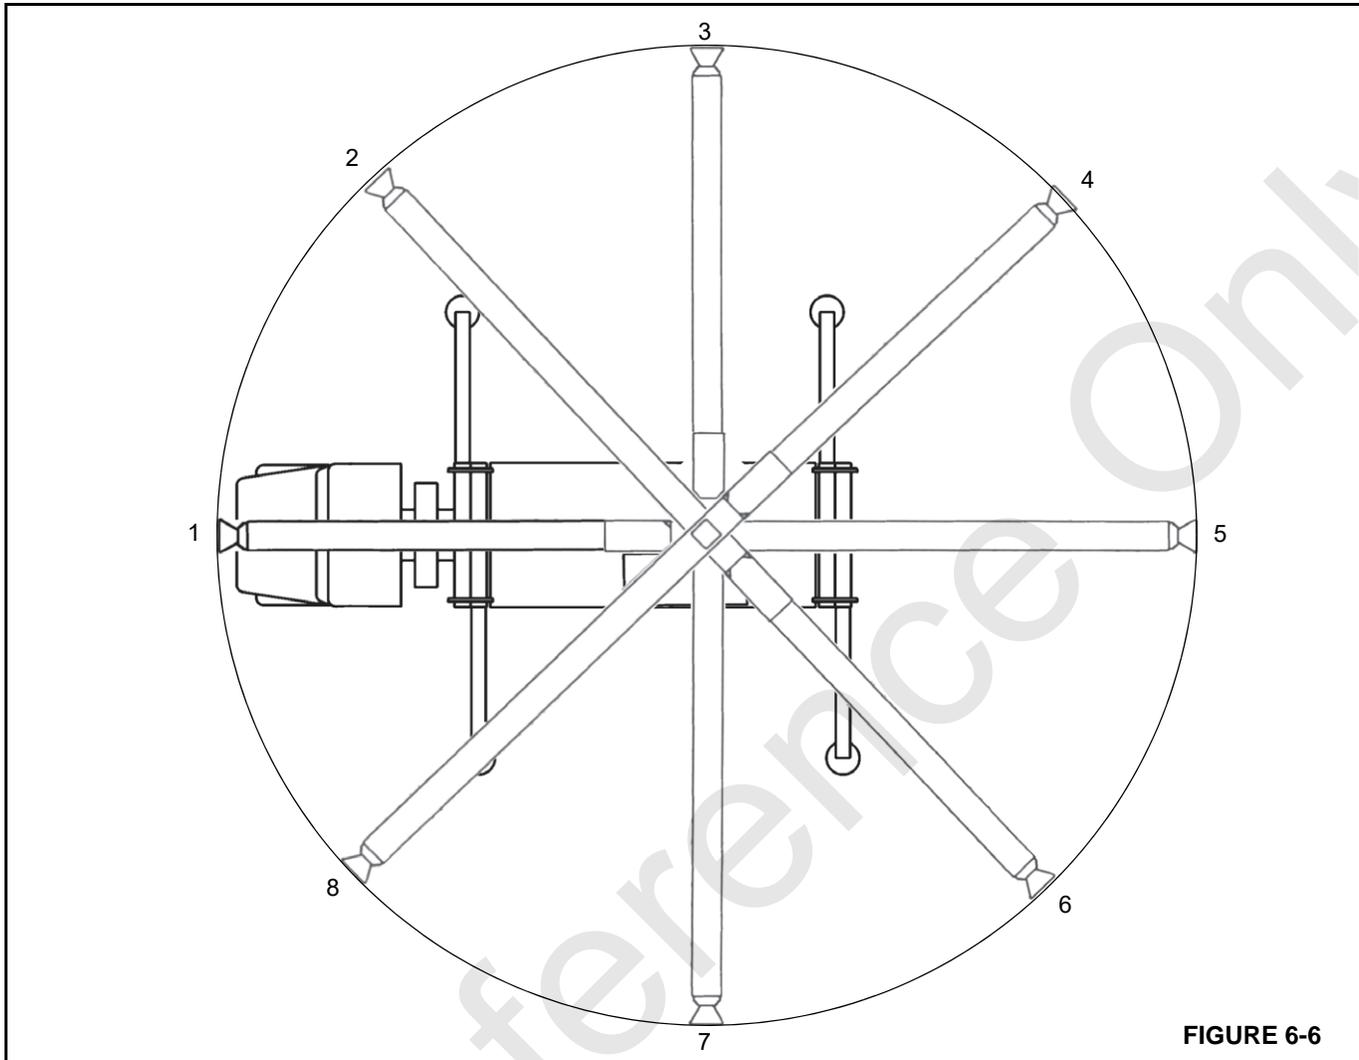

FIGURE 6-6
10. If the average is less than 2 mm (0.090 in), repeat the measurement at every 45° around the total working area of the crane (Figure 6-6).